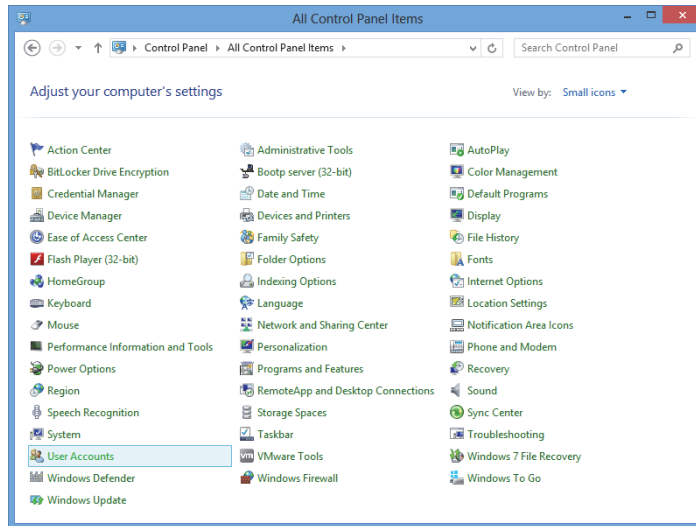

Figure 3-5 Accessing the User Accounts in Windows 8
1. In the **Search** box on the Windows taskbar, type **Control Panel**, press the Enter key, and then click **User Accounts** (see Figure 3-5 on page 55).